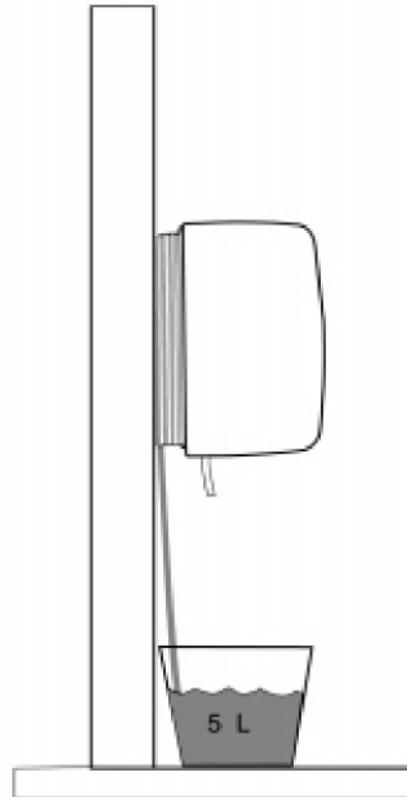

Fig. 23
- Remove the cap after placing a bucket or other container underneath it (at least five litter capacity) to collect the water (see fig. 23).